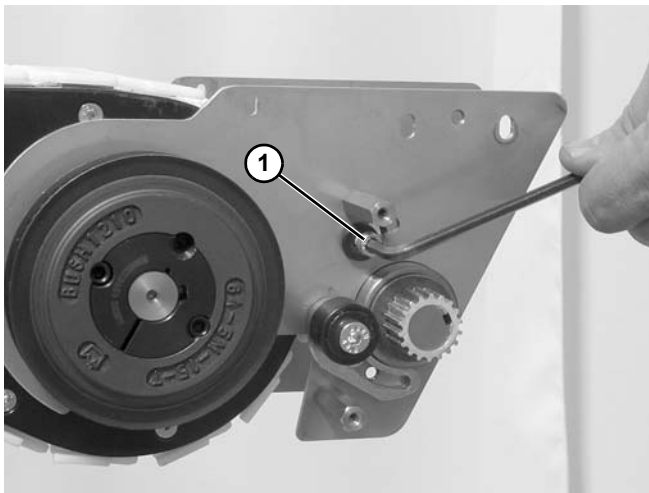

Figure 165
12. Remove socket head screw (**Figure 165, item 1**) on both sides of the conveyor and remove idler assembly.